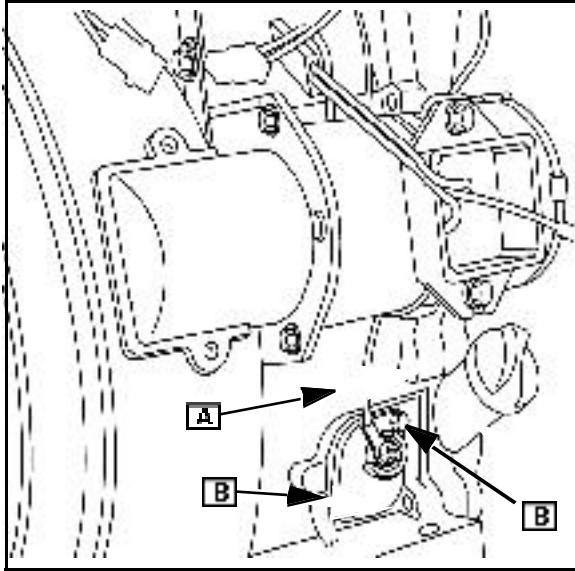

Fig. 28
1. Disconnect wire (A) from float assembly terminal and remove mounting screws ([B] Fig. 28).